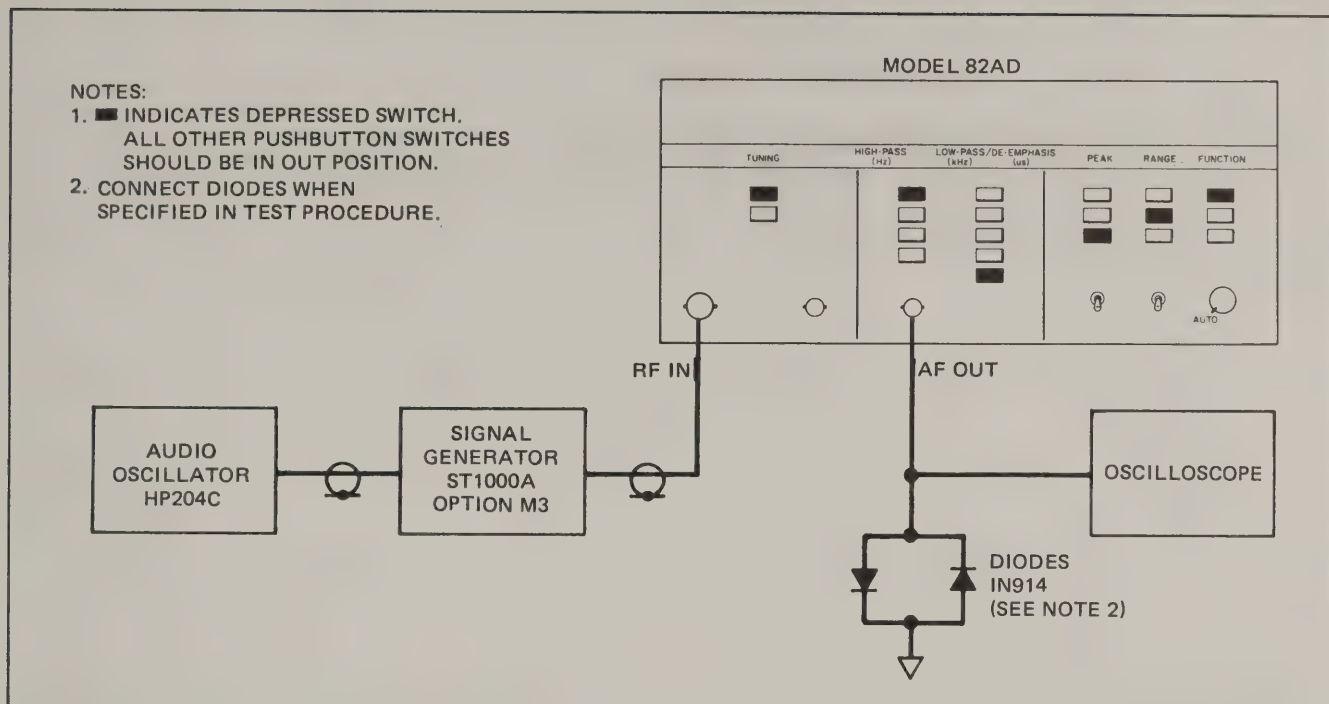

Figure 2-12 Stereo Separation Check, Test Setup
- a. Connect the Model 82AD and test equipment as shown in Figure 2-12. Do not connect the diodes at this time.
- d. Set the Model 82AD LEVEL control to the AUTO position. Depress the Model 82AD switches indicated in Figure 2-12.
- g. Connect the diodes across the Model 82AD audio output circuit as shown in Figure 2-12. Increase the oscilloscope sensitivity 10 times. The oscilloscope display should appear as shown in Figure 2-14.